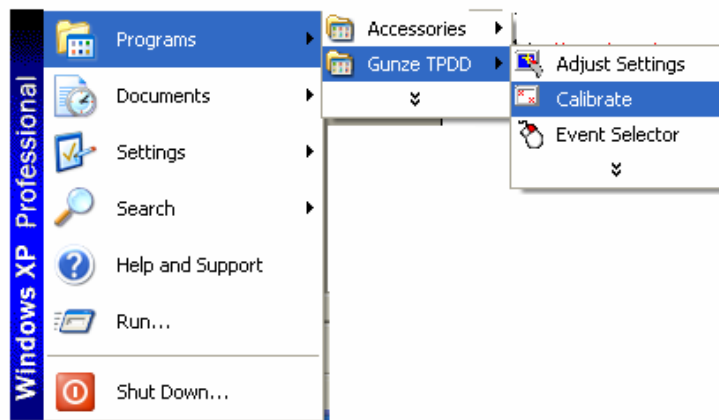

Figure 5
16. From the MS Windows Tool Bar Select “Start”. Select “Programs” and select “Gunze TPDD” and select “Calibrate”. See Figure 5.